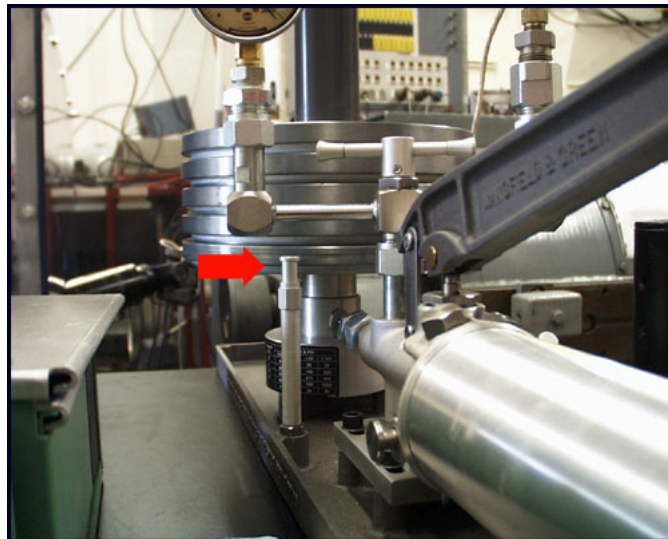

Figure 14
- 119 Push the valve rod in and then operate the pump handle until there is sufficient pressure to allow the tube to rotate freely. Aligning the groove in the bottom weight with the system indicator. See the arrow in Figure 14.